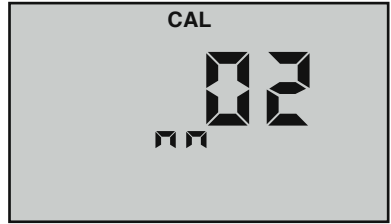

Figure 13
7. Press  to accept the change to the new month (see Figure 13).